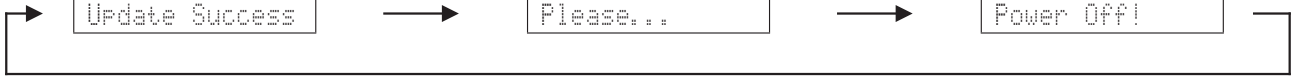

Fig. 3
- When writing of the firmware is completed, "Update Success", "Please..." and "Power Off!" are displayed repeatedly. (Fig. 3)
- ファームウェアの書き込み完了後、“Update Success”、“Please...”、“Power Off!” が繰り返し表示されます。(Fig. 3)